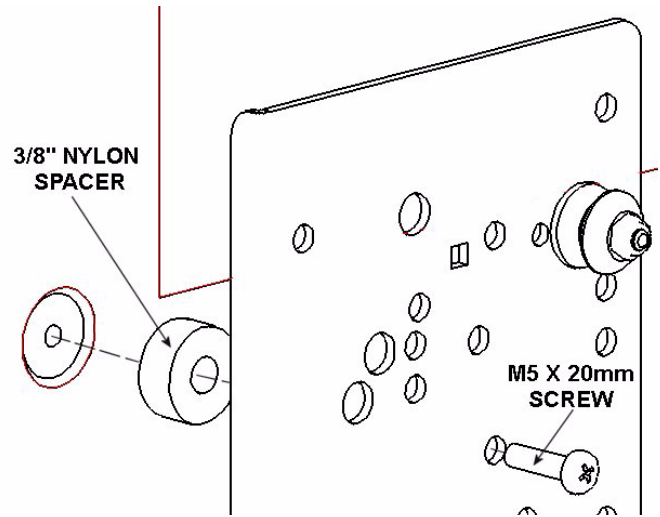
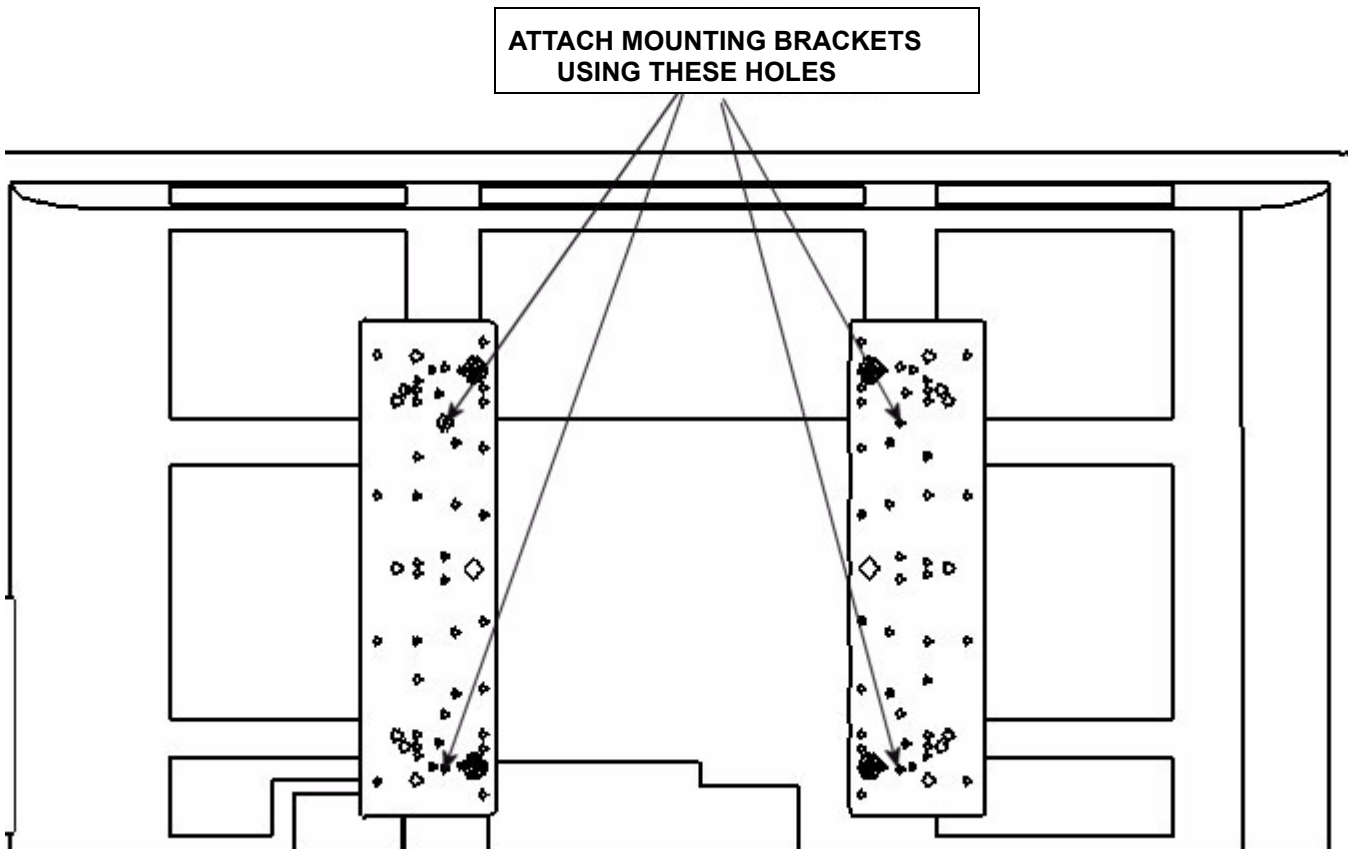

Figure 18. Spacer Installation for Group 8
Figure 19. Bracket Attachment for Group 8
4. Place the interface brackets over the Nylon spacers (see Figure 18 and Figure 19).
6. Using the hardware in the parts bag labeled C, attach the interface brackets to your display in the proper holes in each interface bracket (See Figure 18 and Figure 19). Do not overtighten the mounting screws.